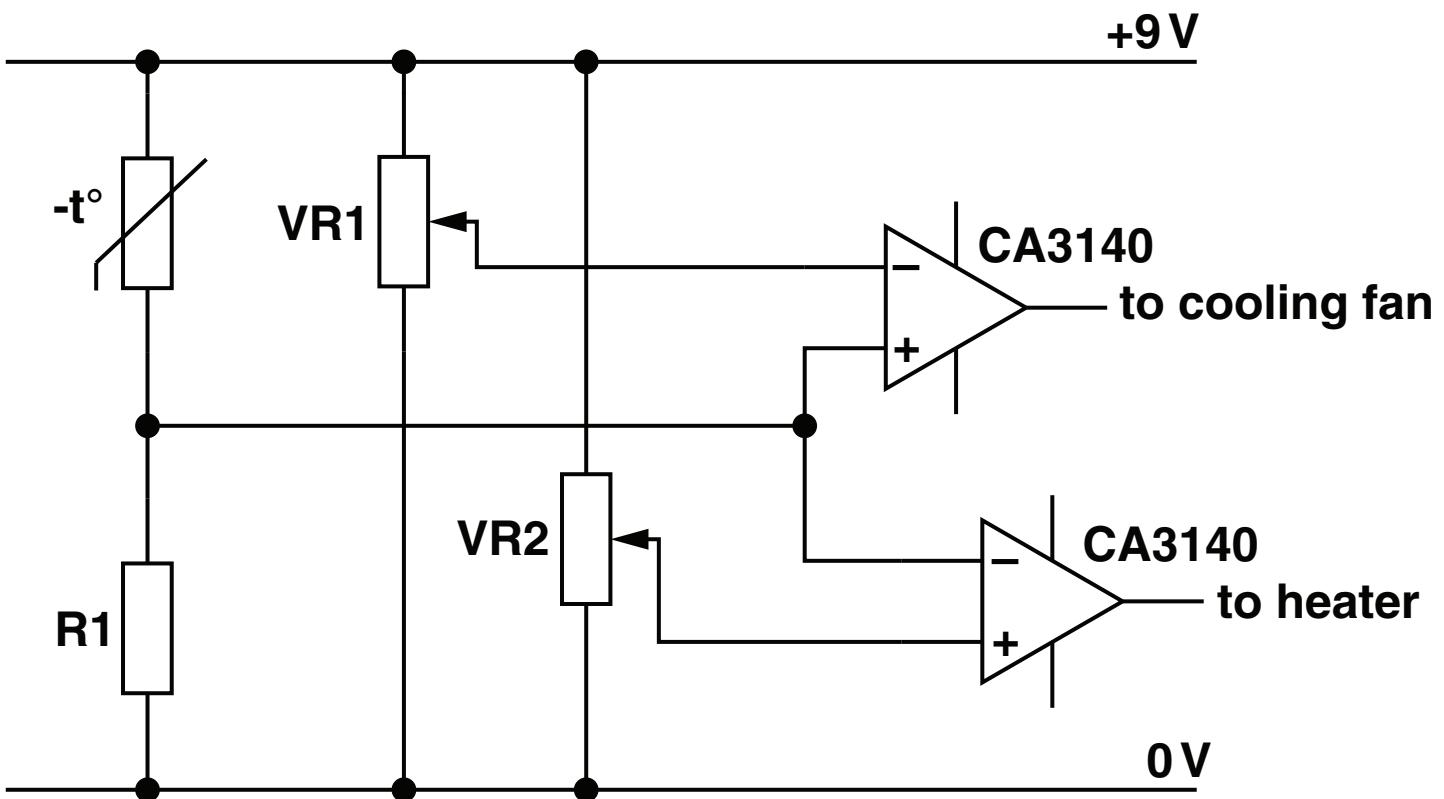

Fig. 10
(b) The signal from the thermistor is taken to TWO comparators as shown in Fig. 10.
- (ii) It is found that a double comparator IC is available to replace the single version specified in Fig 10. Two versions of the IC are shown in Fig. 11.
State the reason for using the multi-turn preset resistors as VR1 and VR2 in Fig. 10.